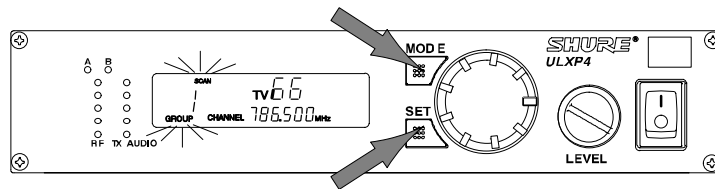

FIGURE 36
1. Hold down the SET button and press the MODE button once. The words GROUP and SCAN will flash on the display. Refer to Figure 36.